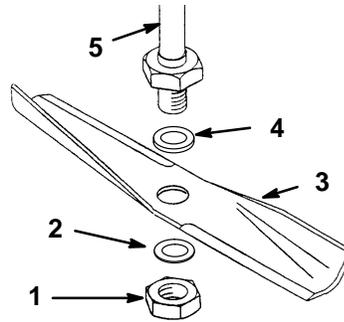

Figure 24
1. Install the washer, blade, flat washer, and the blade nut (Fig. 24).